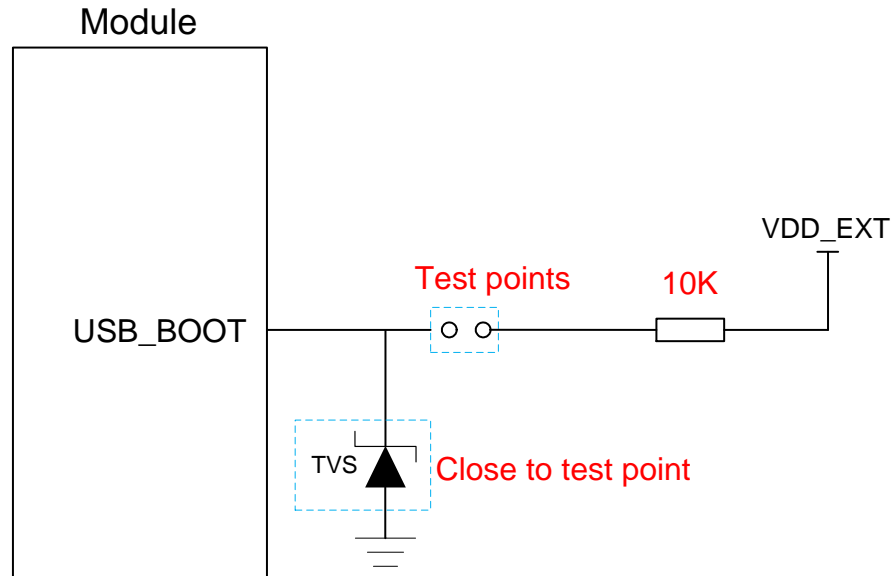

Figure 23: Reference Design of USB\_BOOT Interface
3. When using MCU to control the module entering emergency download mode, follow the above timing. Connecting the test points as shown in **Figure 23** can manually force the module to enter download mode.